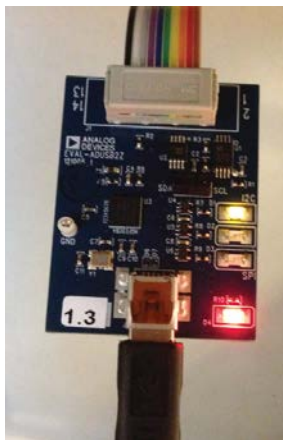

Figure 9. State of USBi Status LEDs After Successful Driver Installation
- With the USBi still connected to the USB 2.0 port of the computer, check that both the yellow I2C LED and the red power indicator LED are illuminated (see Figure 9).